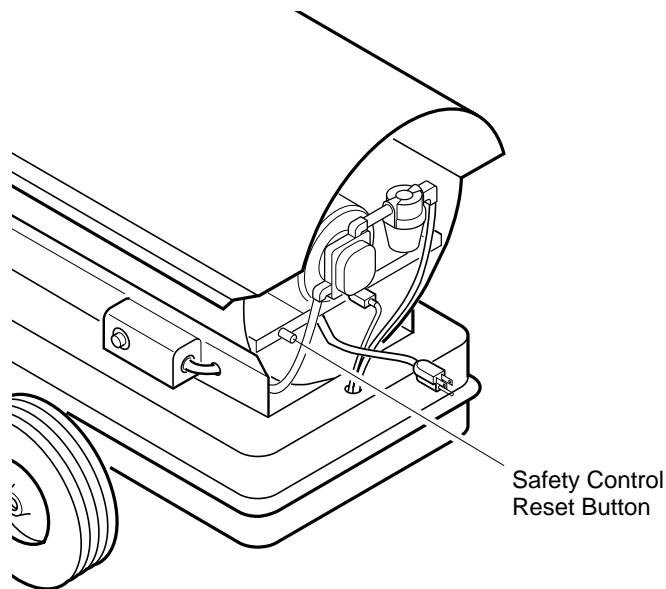

Figure 4 - Safety Control Reset Button
6. The motor will start when power cord is plugged into outlet. The heater should ignite at once. If heater does not ignite, restart heater. To restart heater, wait 60 seconds, then push in safety control reset button. Safety control reset button is at rear of heater near power cord (see Figure 4).
4. Press and release safety control reset button. See Figure 4, page 8 for button location.